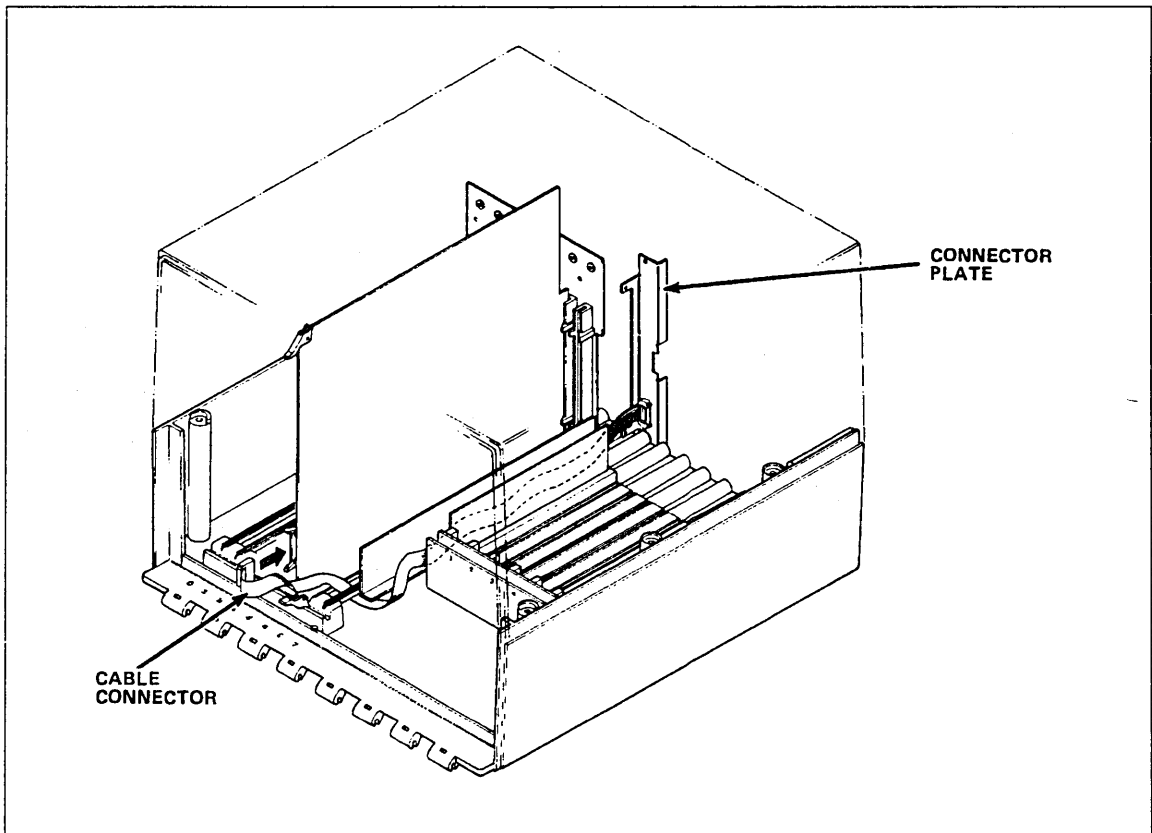

Figure 1-49. ESCI Cable Routing
4. Remove a filler plate from the back of the cabinet (behind the ESCI board) and route the cable from the back of the cabinet, through the cable tray in the center of the cabinet. Refer to figure 1-49 for location of cable tray.